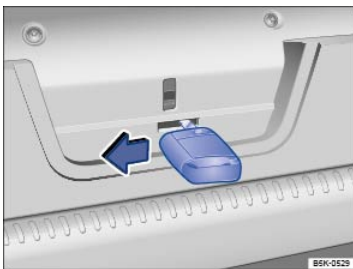

Fig. 73 Inside the luggage compartment behind the cover: Opening the trunk lid.
- Insert the key bit into the slot in the trunk lid trim and press the release lever in the direction of the arrow ⇒ Fig. 73 to unlock the trunk lid. At the same time, push the trunk lid out until it opens.